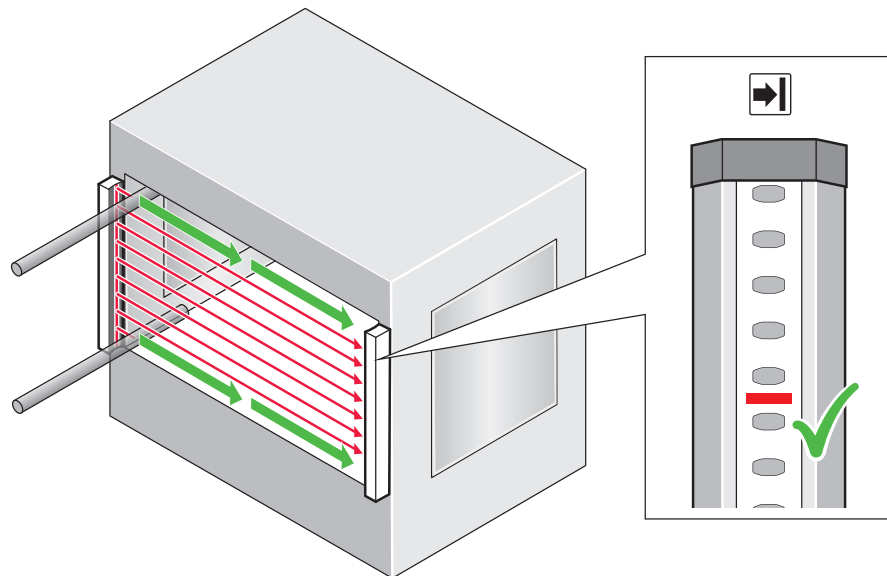

Figure 30: Test rod check: Step 3
3. Then, guide the test rod along the edges of the area to be protected, as indicated by the arrow, see figure 30.